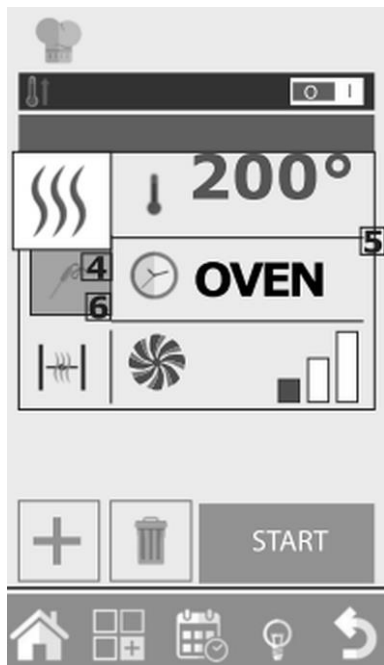

Fig. 12
By pressing key 5 (Fig. 12) you can set the timer (Countdown). The time is indicated in minutes format (1h 30' = 90 minutes).
Press key 6 (Fig. 12) to open or close the discharge valve.